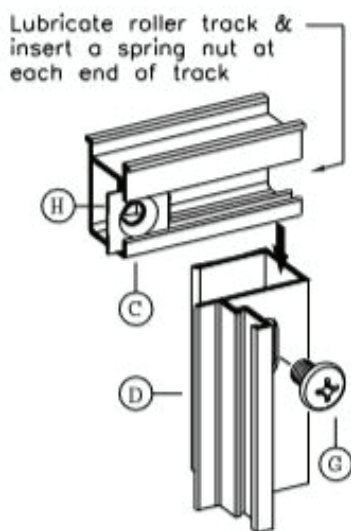

figure 6
Insert a spring nut (H) into each end of the track (see fig. 6 & exploded view - sht 1). Position Top Track (C) on top of jambs and secure track to jambs using two(2) 1/4"-20 Phillips Head installation Screws (G) as shown.